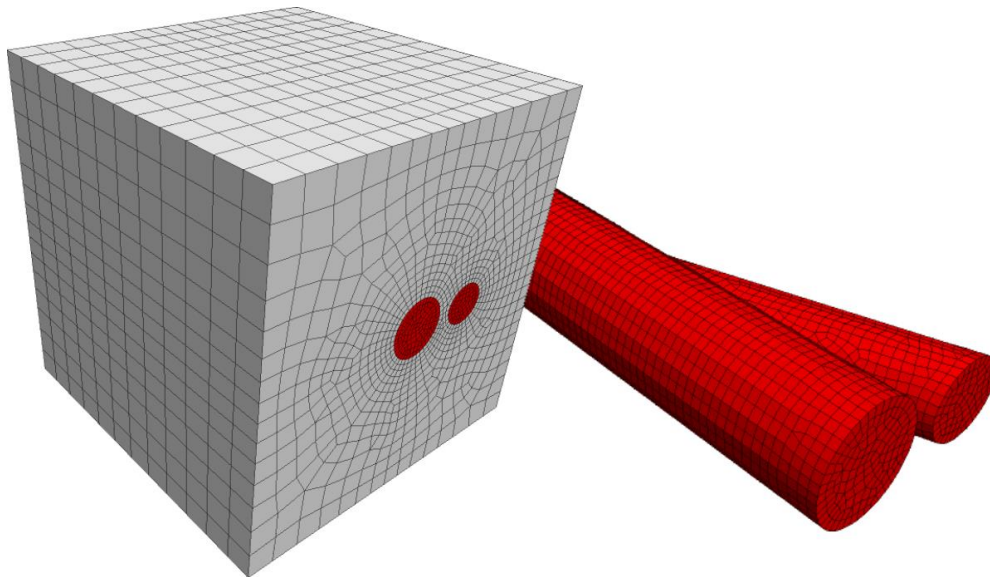

Figure 100: *Griddle* generated *FLAC3D* grid. Entire grid (left) and tunnel detail (right).
10. Select the above quad-dominant surface mesh and type **_GVol** on the command line to start the *Griddle* volume mesher. Select **Mode:ConHexDom** and **OutputFormat: FLAC3D** and press enter to create a conformal hex-dominant *FLAC3D* grid (output to GVol.f3grid in your current working directory). Details of the *FLAC3D* grid are shown in Figure 100.